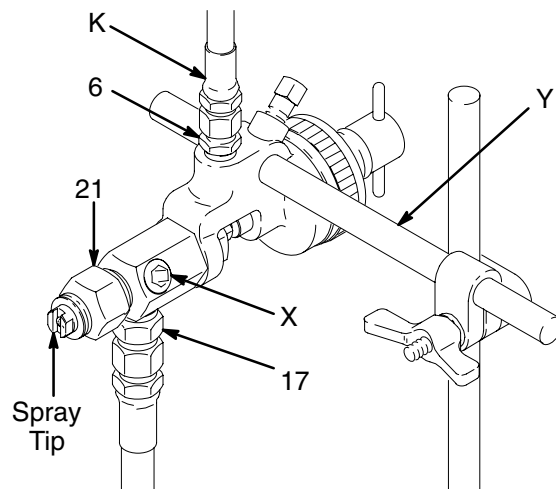
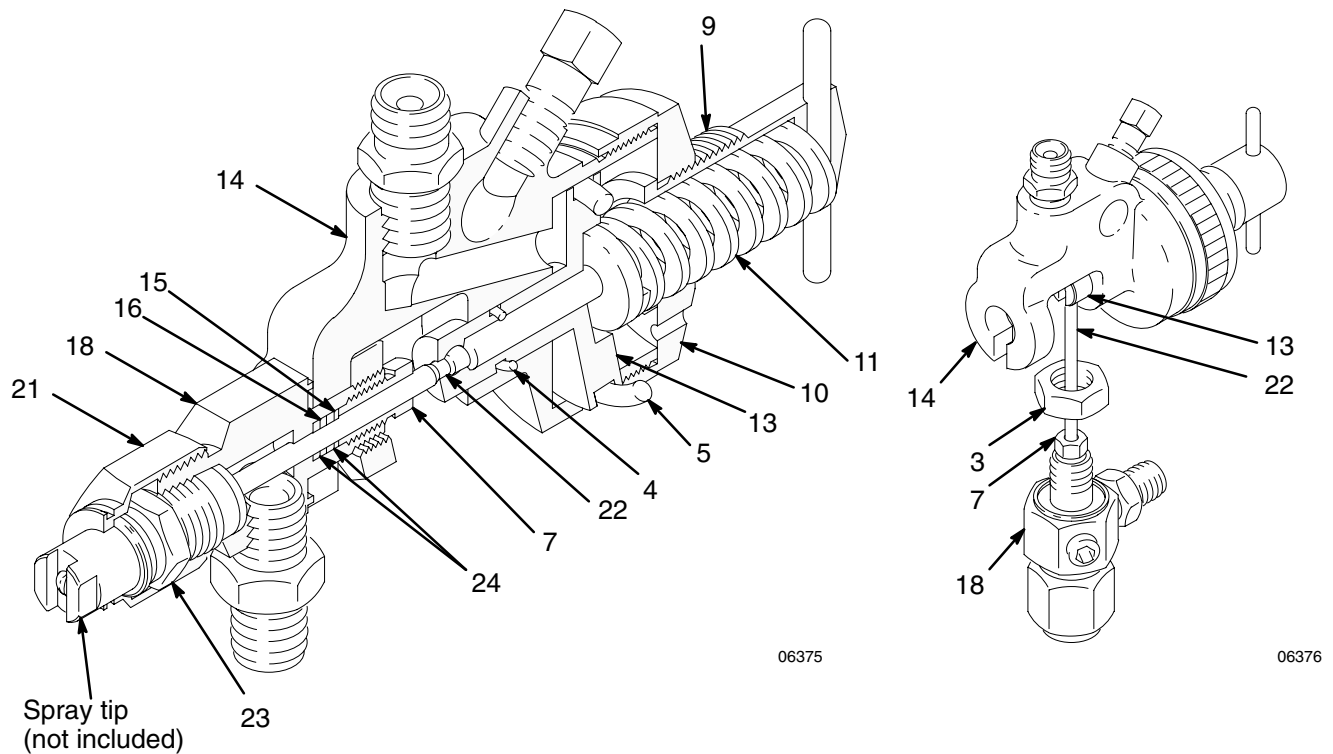

Fig. 1
Fig. 2
Mount the gun on a 0.50 in. (12.7 mm) diameter rod (Y) on a mounting fixture or a spray machine. See Fig. 1 and the **Typical Installation**. The tip of the gun should be 12 in. (305 mm) from the surface of the workpiece (N).
Use a normally closed 3-way air solenoid valve (F) to control the spray gun (J). Attach a grounded air supply line (K) from the 3-way valve to the 1/4 npsm(m) air inlet adapter (6) of the Gun. See Fig. 1.
**Relieve the pressure** and close the air valves. Unscrew the tip retainer (21) and install the tip, then tighten the retainer. See Fig. 1. Be sure the gasket (19) is installed between the tip and valve seat (23) to prevent leaking. See Fig. 2, page 9. If you are using a tip filter accessory kit, remove the tip retainer (21) and gasket (19) and install the kit with your tip.
Before each day's operation, lubricate the exposed portion of the needle (22) and the piston (13) with a lubricant compatible with the fluid to be sprayed. After lubricating, cover the exposed portions of the needle and piston with a piece of plastic to prevent fluid build-up on these parts. Any spray build-up could damage the valve packings (16 and 24). See Fig. 2.
4. Screw the locknut (3) off the head (18) and align the slot in the air piston (13) with the slot in the gun body (14). Swing the head out of the gun body and slide the needle out of the socket in the air piston.
5. Screw the packing nut (7) out and remove the packings (16 and 24), gland (15), and needle (22).
6. Remove the tip and seat (23) out of the housing. See Fig. 2.